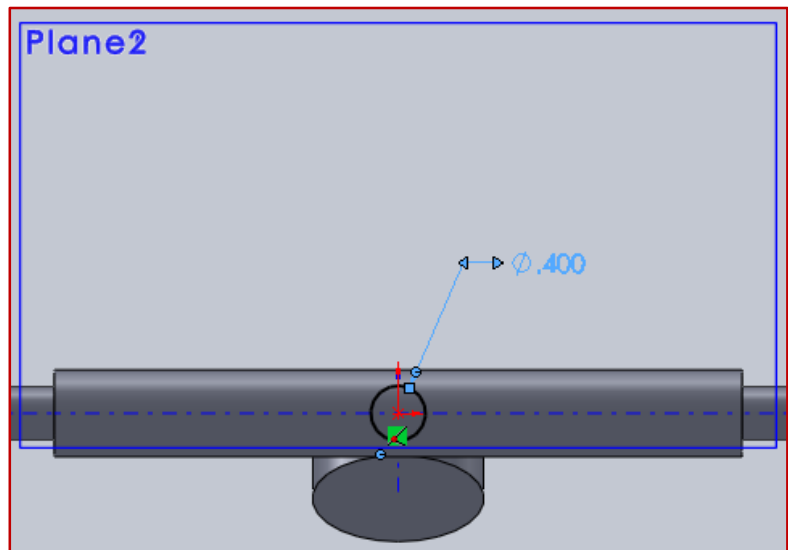

Figure 7.5 – Sketch for Pivot Tip
- ✓ Click the Sketch icon on the Sketch tab of the CommandManager. Click the Circle command and draw a circle on the offset plane as shown in Figure 7.5. The diameter is 0.4 inches.